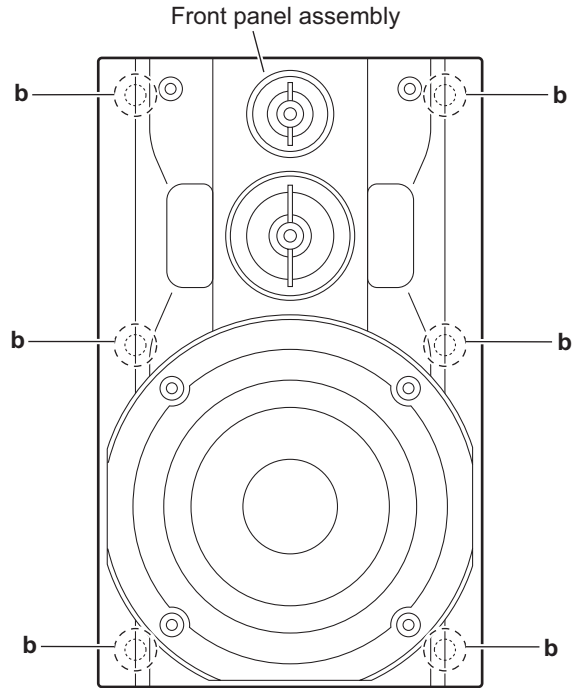

Fig.2
(1) Insert the tip of a flat-bladed screwdriver or similar tool into the space between the speaker main body and front panel assembly, and lift the front panel assembly little by little to remove the sections **b**. (See Figs.2 and 3.)